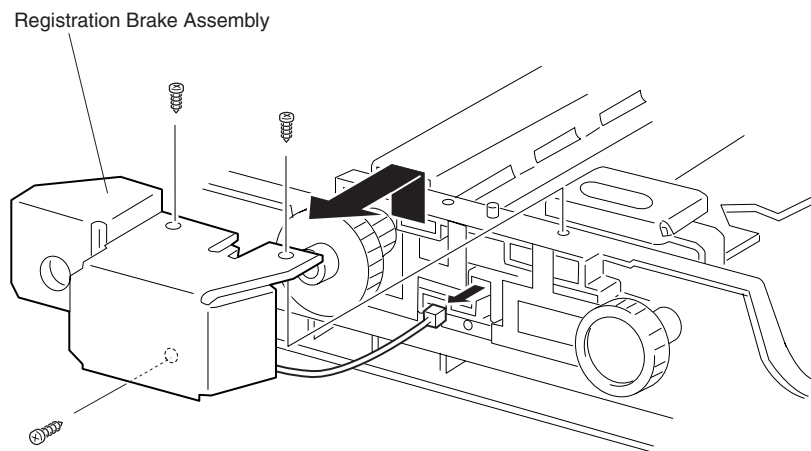

Figure 2
3. Remove the three screws securing the Registration Brake Clutch Assembly to the side of the Main Paper Handling Assembly and remove the Assembly (Figure 2).